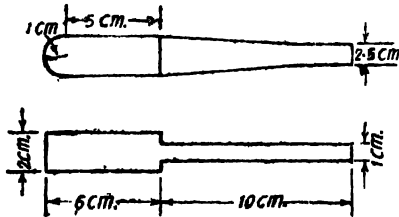

Fig. 8.8
2. A component shown in Fig. 8.8 is to be hand forged from a raw stock of 2.5 cm. dia. Estimate the weight of stock required, if density of material is 8 gm./c.c. Assume shear loss 2% and scale loss 5%. [Ans. 0.866 kg.]
3. A chain link of dimensions shown in Fig. 8.8 is to be hand forged from M.S. bar of 1 cm. dia. Considering all the possible losses during forging, calculate the length of bar required/piece. [Ans. 1.09 cm.]